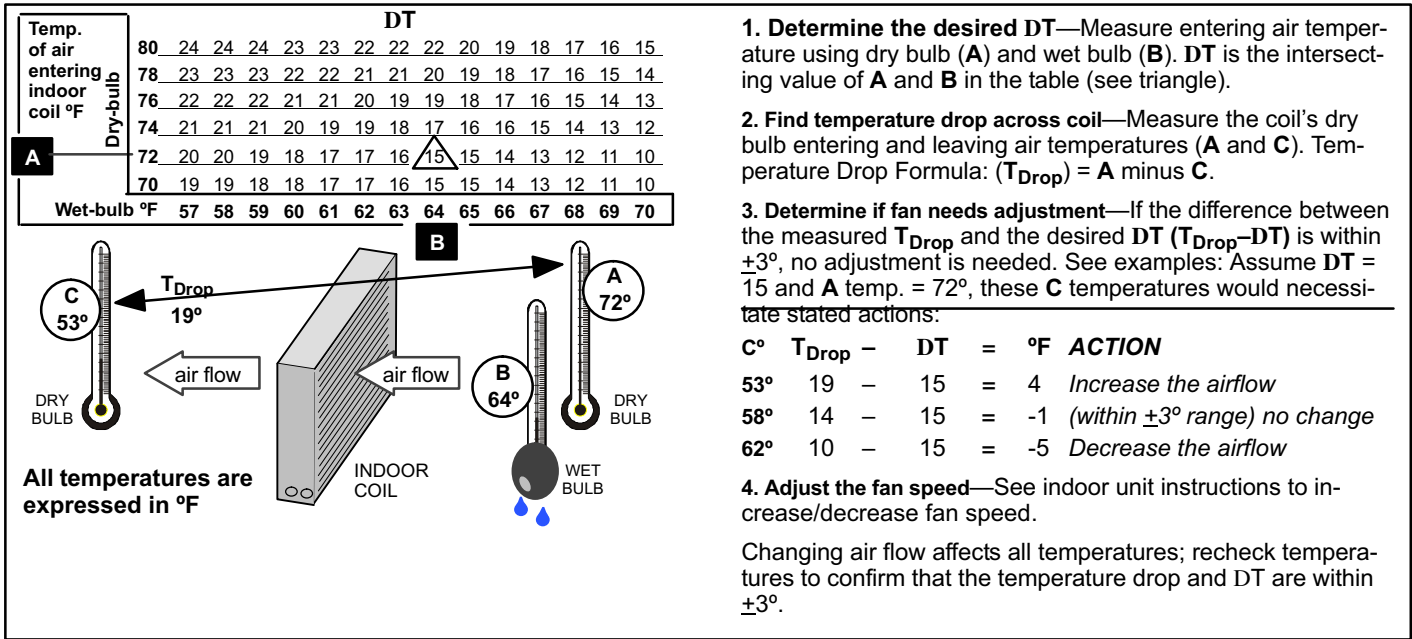

Figure 19. Checking Indoor Airflow over Evaporator Coil using Delta-T Chart
Check airflow using the Delta-T (DT) process using the illustration in figure 19.